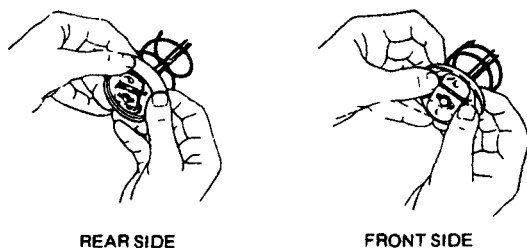

Figure 3
- 1) Visually check the follower seal lip direction before loading a new cartridge. The follower seal lip must be directed toward the follower handle or rear side for cartridge loading. See Fig. 3. To change the direction of the follower seal, unscrew tube cap from grease tube assembly and pull on the handle to remove follower seal from tube. Flip follower seal over and re-assemble.
- 4) Remove the pull tab from grease cartridge and screw Grease Tube Assembly (9) into Pump Assembly (4).